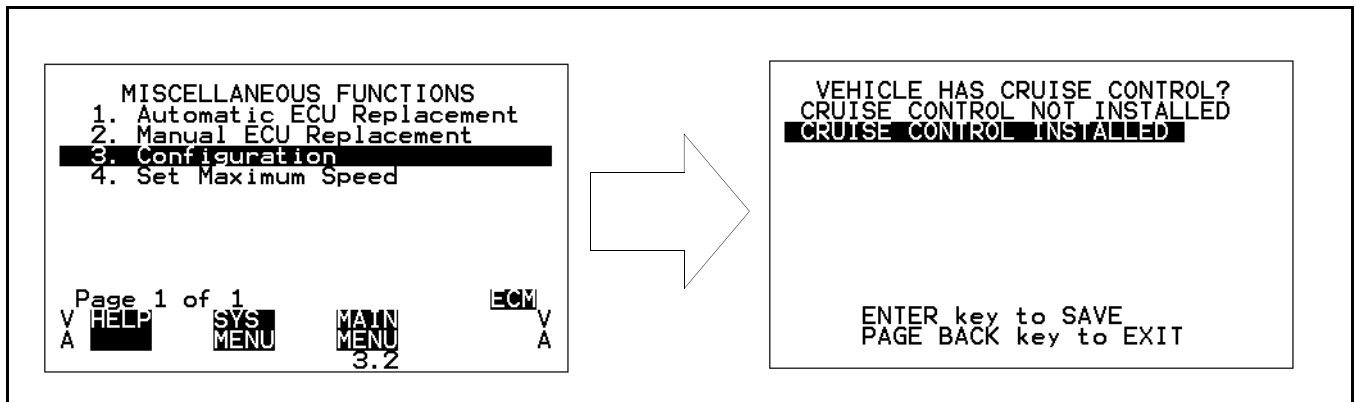

Figure 252 Selecting Configuration
2. Select Configuration in the Miscellaneous Functions screen. When asked, select Cruise Control Installed (Figure 252).